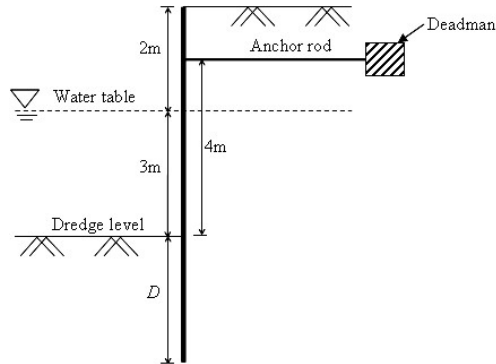

Figure 3
- (b) Determine the depth of embedment and the force in the tie rod for the anchored bulkhead shown in the Figure 3 by applying directly a factor of safety of 2.0 to the passive pressure using free earth support method. The backfill and the soil below the dredge line is sand, having the following properties: $G = 2.6$, $e = 1.0$ and $\phi = 30^\circ$. Assume the soil above the water table is dry. [Take γ_w as 10 kN/m³].